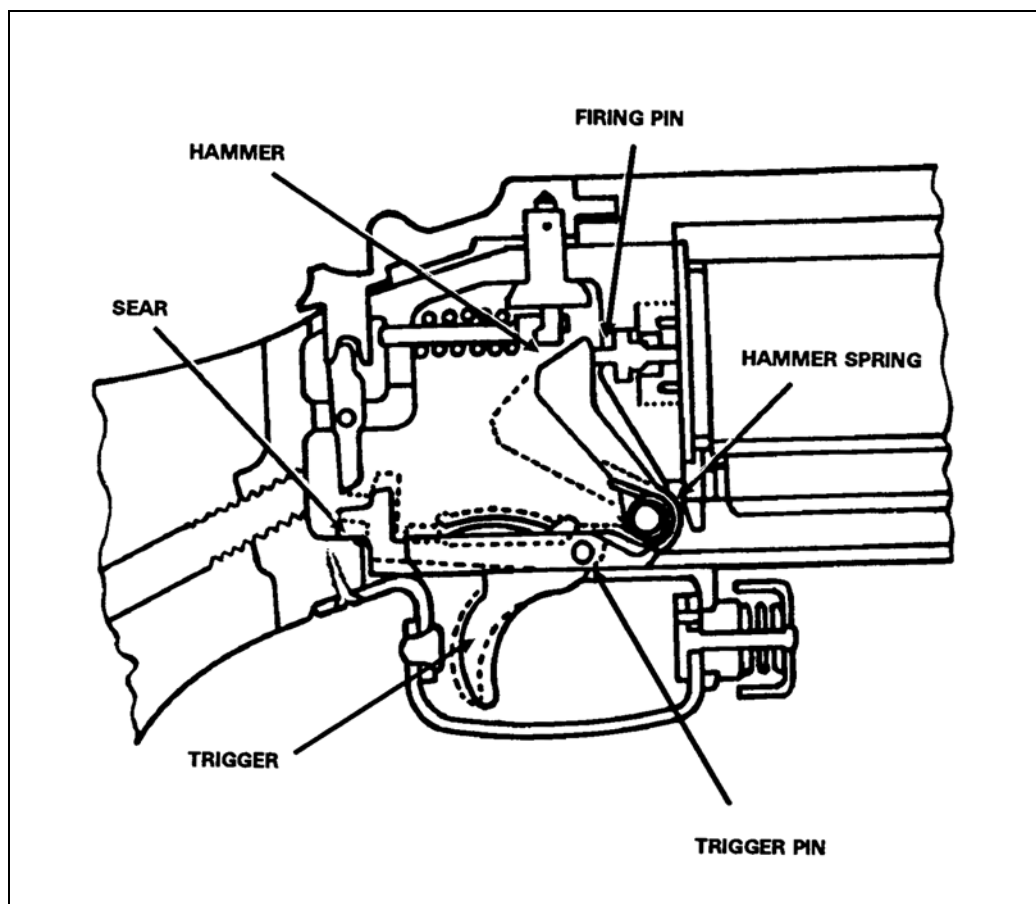

Figure A-18. Firing the weapon.
h. **Firing.** As you pull the trigger rearward, it rotates on the trigger pin. The rear of the trigger lifts the rear of the sear, causing the nose of the sear to disengage from the sear notch in the hammer. This releases the spring-driven hammer, which strikes the firing pin and drives it forward to strike the primer of the cartridge. When you release the trigger, the hammer settles back slightly, allowing the firing pin spring to withdraw the pin from the face of the retainer (Figure A-18.).